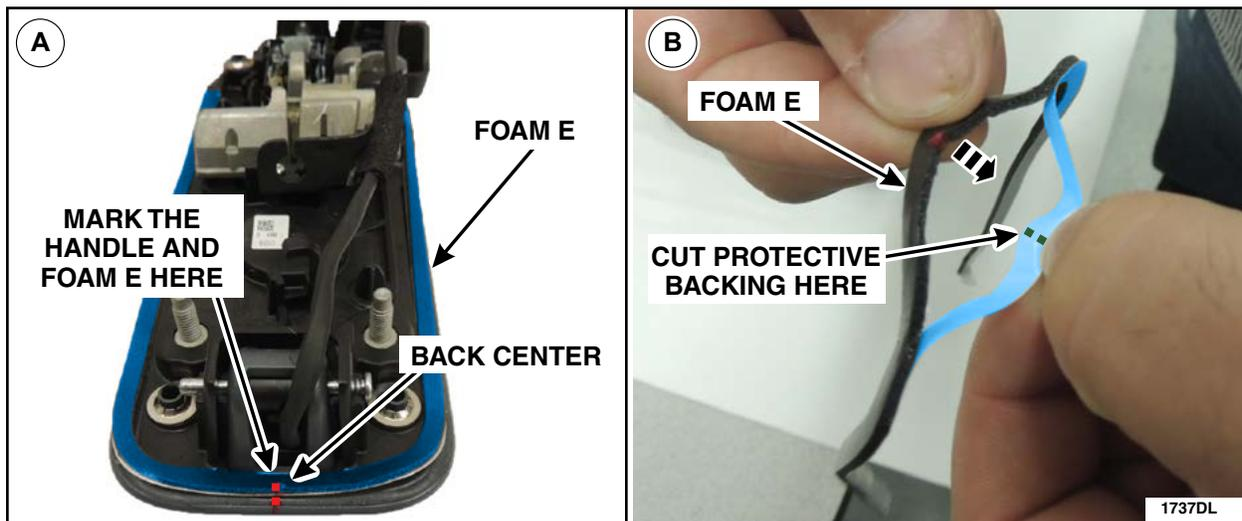

FIGURE 24
- A. Lay out Foam E on the exterior door handle and mark center as shown in Figure 24.
- B. Remove Foam E from the door handle and remove the back center portion of the adhesive backing then cut the protective backing in half. See Figure 24.